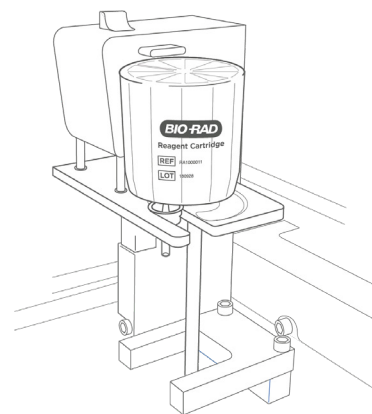

Fig. 35. Reagents Cartridge on spindle.
4. Pull aside the cartridge retainer arm and place the Reagents Cartridge on the spindle, spinning it slowly until the keys align and it drops down (Figure 35).